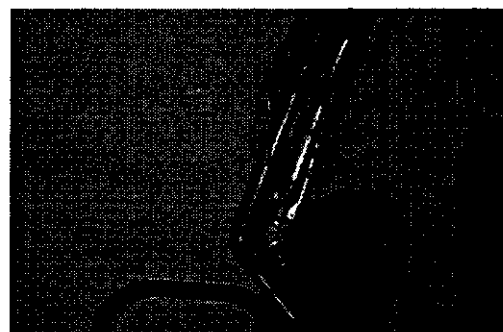

FIG. 9
4. Place hand tool on fabric and squeeze trigger while applying pressure on fabric and slowly pull tool backwards. Be careful not to over wet upholstery. Repeat stroke without spray to get fabric as dry as possible. Overlap cleaning strokes to avoid streaking (Figure 9).